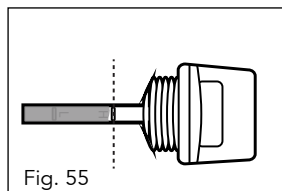

Fig. 55
4. If oil needs to be added, use a funnel and simply pour oil in until the level reaches the max level of the oil gauge (fig. 55). Oil tank capacity is 470-590ml.